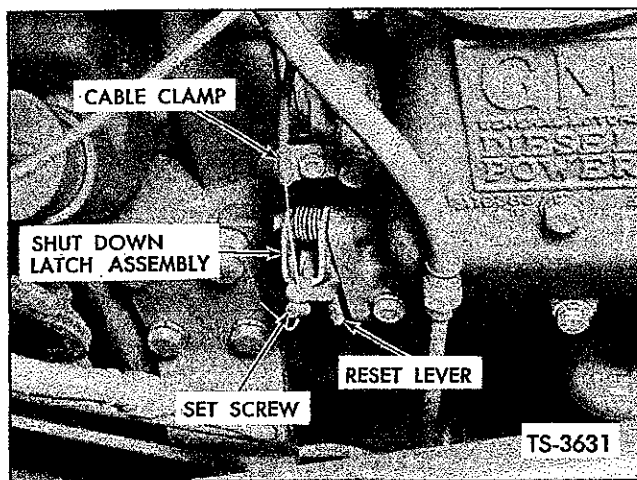

Fig. 33. Adjust Engine Air (Emergency) Shut-Off Control — G.M. Diesel
3. Increase cable tension as necessary at shut down latch assembly on air intake housing by loosening set screw from cable connector. See Figure 33. Retighten set screw.